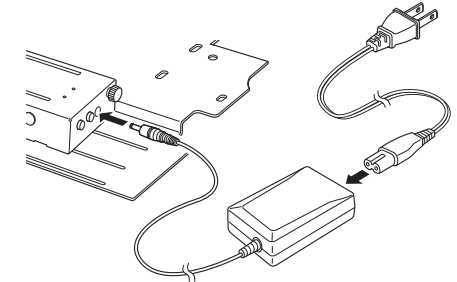

Figure 26
1. Install the AC/DC adapter and attach the AC cable to the AC/DC adapter. Refer to Figure 26. During use, always use the supplied AC/DC adapter. Never use an AC/DC adapter other than that supplied as it may result in an accident or damage to the equipment.